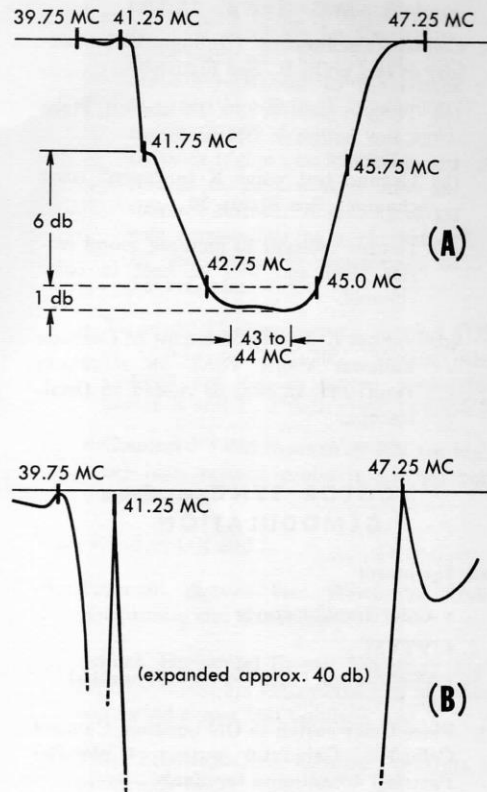

Figure 15—Overall Response Curve, Taken at Test Point C1
- (a) Adjust Converter plate coil (on tuner) for maximum response *near* 45.75 mc to approach response shown in Figure 15.
- (b) Tune 1st IF coil (T1) for maximum 45.75 mc response to approach response shown in Figure 15.
- (a) Adjust 2nd IF coil (T2) for maximum response at approximately 45 mc. This adjustment will "rock" the center of the response. Adjust to approximate response shown in Figure 15.
This adjustment will affect the lower frequency side of the response. Adjust to approximate response shown in Figure 15.